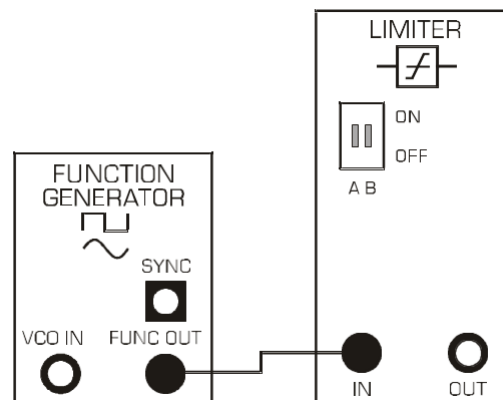

Figure 1-8 Patching Diagram for Voltage Limiter.
1. Connect the system in Figure 1-8.